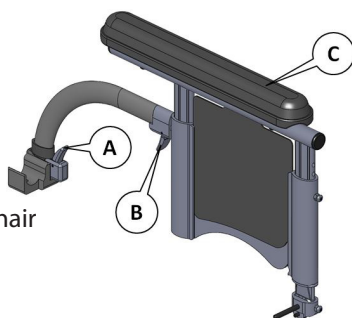

Figure 48 :Type "U" in Armrest
2. By default, the upright position is  $0^\circ$ . To obtain a negative tilt, move the adjustment block **D** and the gas cylinder **G** forward (figure 48-b).
4. To obtain a negative tilt, move the adjustment block **D** and the gas cylinder **G** toward the holes for the negative tilt (figure 48-b).